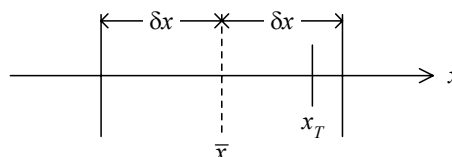
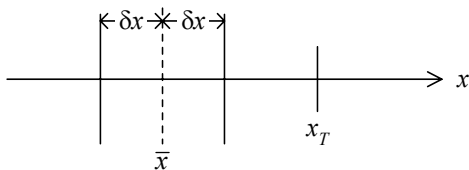

Fig. 4
Fig. 6
- If $\Delta < \delta x$ (Fig. 4), you can say
Compare **Fig. 4** and **Fig. 6**:
Result in **Fig. 6** is more precise than that in **Fig. 4**, probably due to better equipment (but not properly calibrated). Result in **Fig. 4** is more accurate than that in **Fig. 6**.